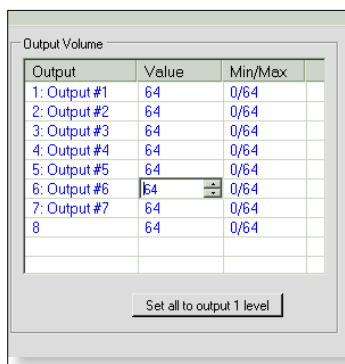

Figure 5-29 — Enter a value or scroll arrows to set the output volume
2. Either; using the arrows, scroll up or down to the desired setting (from 0 to 64, where value 0 = -64 db, 64 = 0 dB), or directly type in the value (see figure 5-29). Press Enter. The output's volume is set to that level.